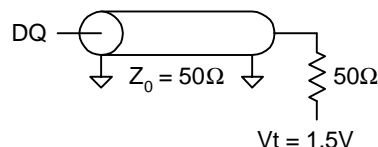

Fig. 1 OUTPUT LOAD EQUIVALENT
Output load	See Figures 1 and 2
5. Test conditions as specified with the output loading as shown in Fig. 1 unless otherwise noted.
15. Capacitance derating applies to capacitance different from the load capacitance shown in Fig. 1.